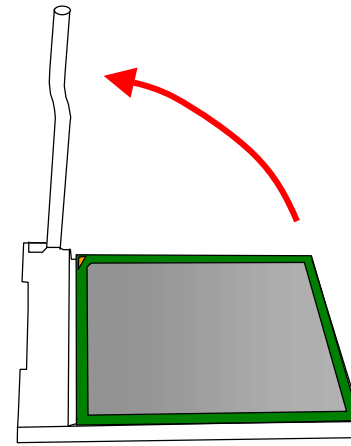

Figure 2-9 Remove the CPU
5. To remove the existing CPU, lift the socket arm up to the vertical position. (Figure 2-9)